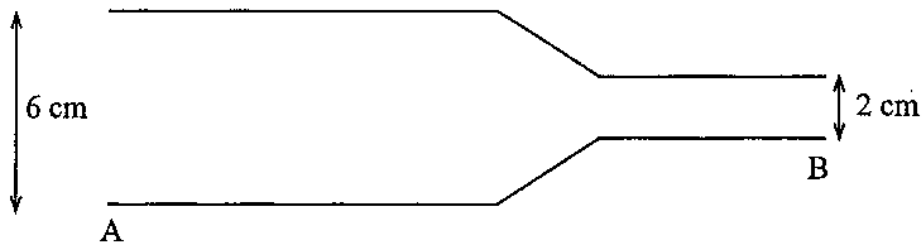

Fig. 4.1
- (b) Fig. 4.1 shows a pipe carrying a fluid of density $1\,000\text{ kgm}^{-3}$. The diameter of end A is 6 cm while that of end B is 2 cm. At A the fluid is flowing at 2 m/s and has a pressure of 180 kPa.